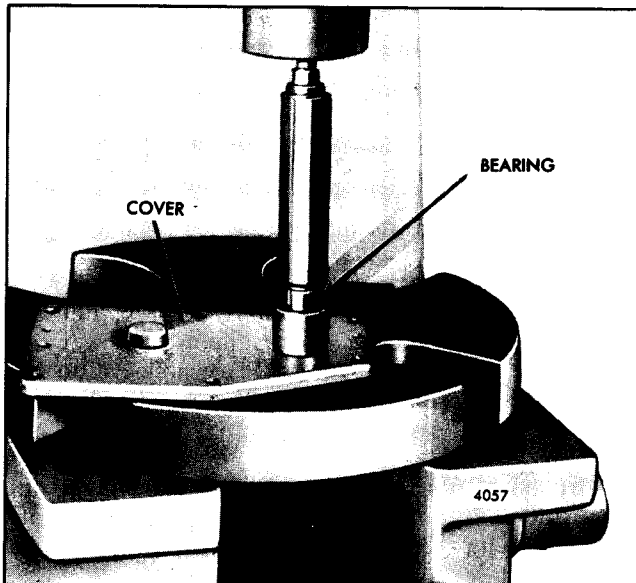

Fig. 13 - Installing Governor Cover Bearings using Tool J 21068
1. Place the cover, with the inner face down, on the bed of an arbor press. Start a needle bearing straight into the bearing bore of the cover, with the number side of the bearing up. Then, insert bearing installer J 21068 in the bearing and press the bearing in until the shoulder on the tool contacts the cover (Fig. 13).